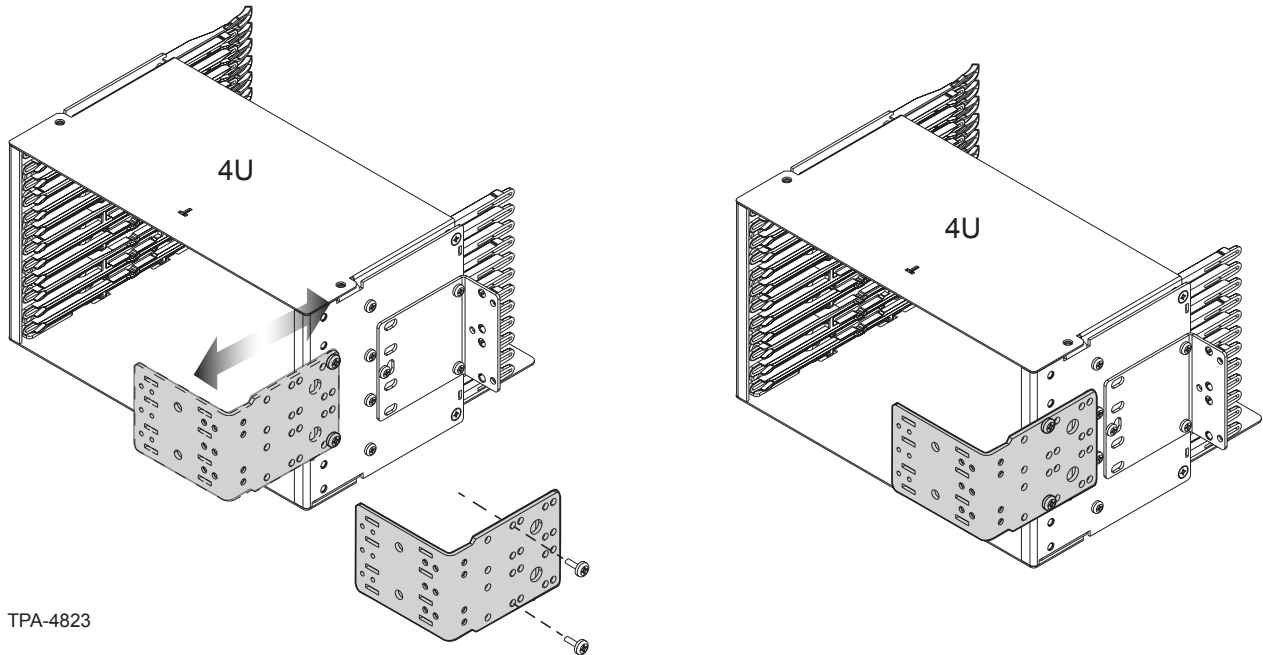

Figure 12
Step 1: Reposition the cable strain-relief bracket (if necessary) to the forwardmost mounting position at the rear of the housing (Figure 12).